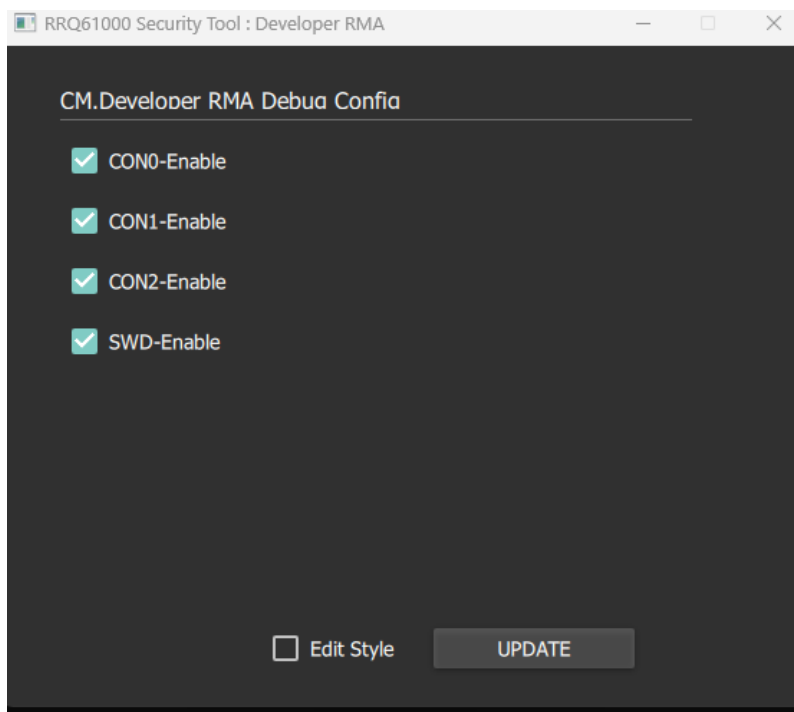

Figure 49. CM RMA developer config
2. In the **Developer RMA** window (Figure 49), click **Update** again.